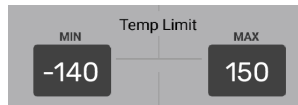

Figure 47 - Temp Limit Buttons
- **Temp Limit buttons** — The **MIN** button toggles to set or clear (erase) the minimum temporary limit. The **MAX** button toggles to set or clear the maximum temporary limit. See **Figure 47**.